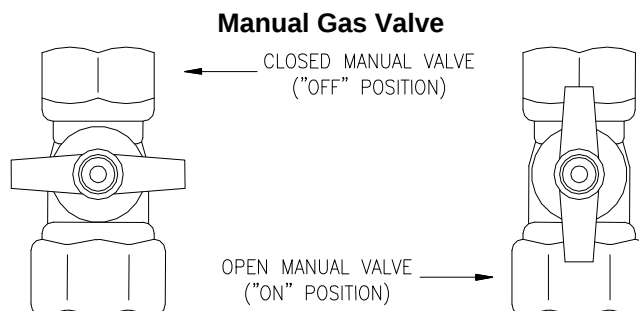

Figure 47
- STOP! Read the safety information above before proceeding. - Set the thermostat to the lowest setting. - Turn off all power to the electrical appliance. - This appliance does not have a pilot. It is equipped with a direct ignition device, which automatically lights the burner. Do not try to light the burner by hand. - Turn the manual valve located at the gas inlet of the appliance clockwise ↻ to "OFF" (see Figure 47).	- Wait (5) minutes to clear out any gas. If you then smell gas, STOP! Follow "B" in the safety information above on this label. If you don't smell gas, go to next step. - Turn the manual valve located at the gas inlet of appliance counterclockwise ↺ to "ON" (see Figure 47). - Turn on all electric power to the appliance. - Set the thermostat to desired setting. - If the appliance will not operate, Follow the instructions "To Turn Off Gas To Appliance" and call your service technician or gas supplier.
- Set the thermostat to the lowest setting. - Turn off all electric power to the appliance if service is to be performed.	Turn the manual valve at gas inlet of appliance clockwise ↻ to "OFF" (see Figure 47).